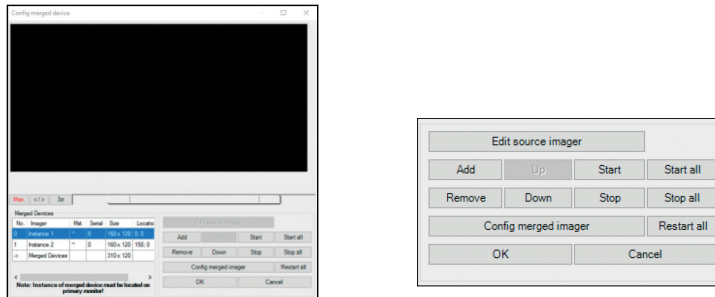

Fig. 118 Add cameras
- ➡ Depending on how many cameras you want to use, click correspondently often the button `Add`, see Fig. 118.